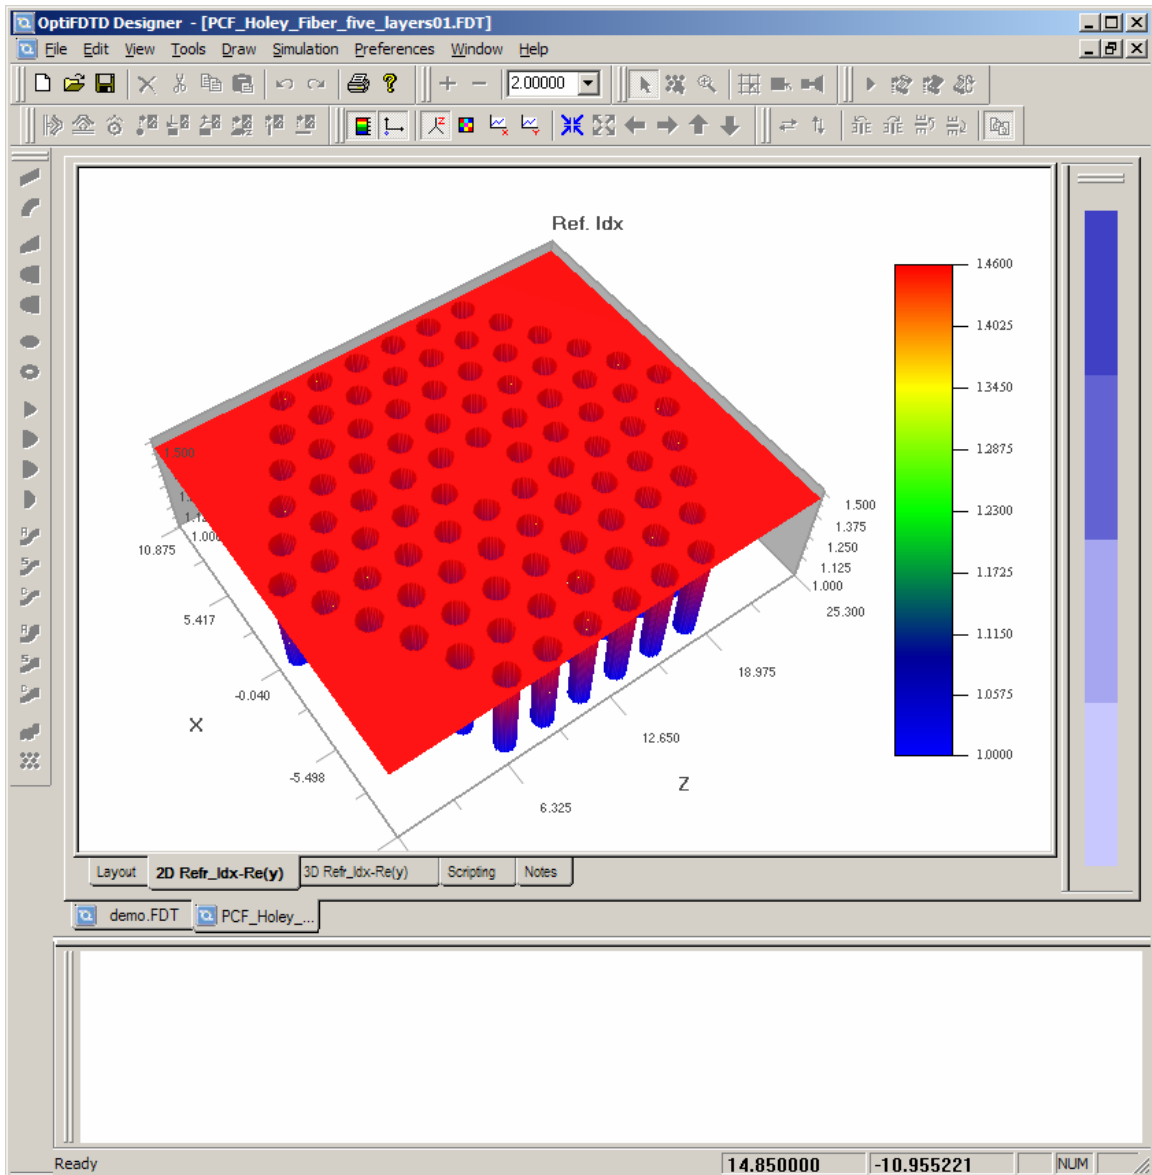

Figure 10 Refractive index distribution
- 21 Click **2D Refr\_Idx\_Re(y)** to observe the refractive index distribution. ( see figure 10)